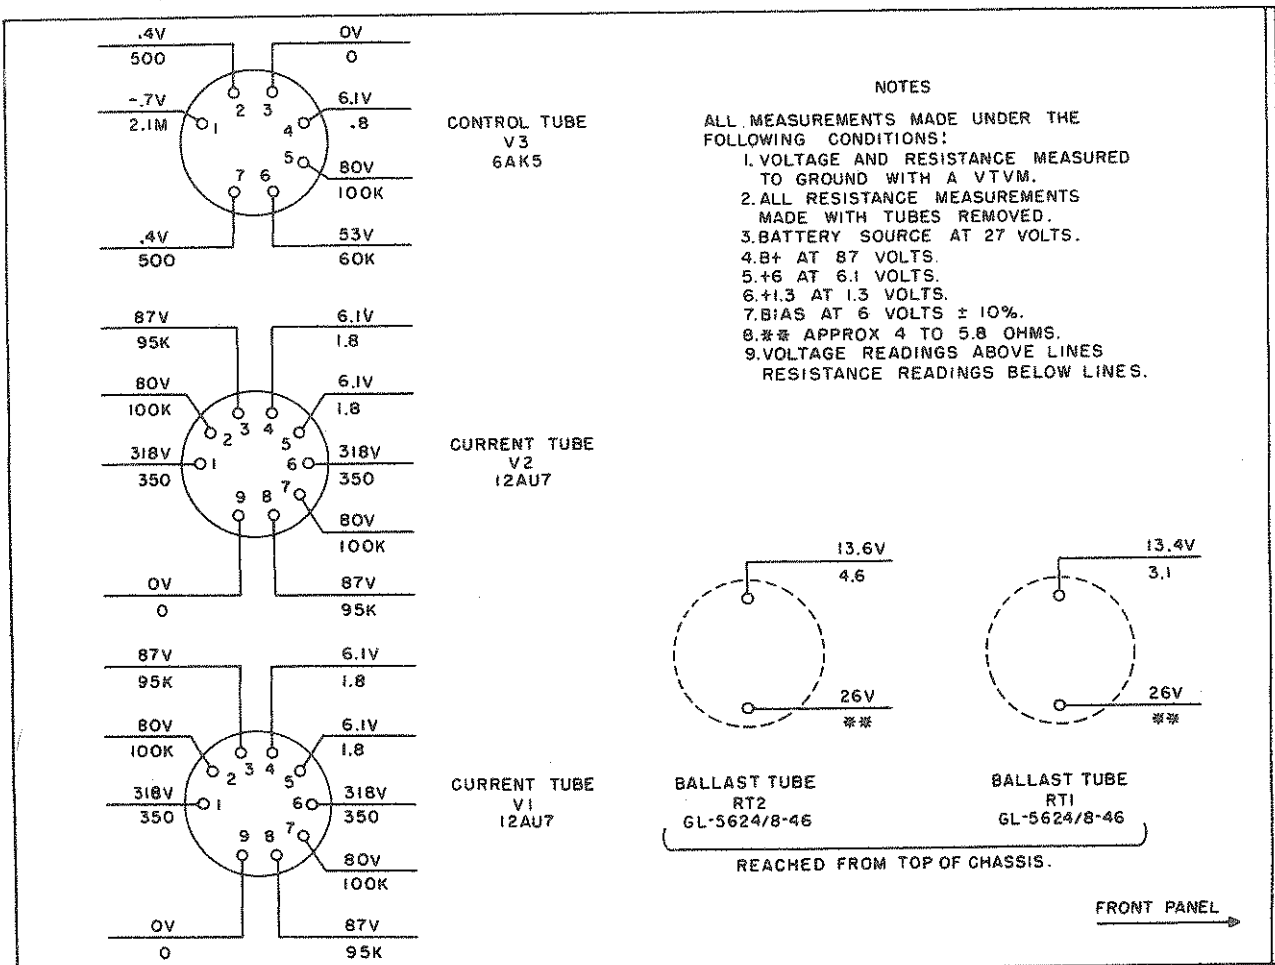

Figure 66. Dynamotor-Power Supply DY-79/PRD-1, tube socket voltage and resistance diagram.
(7) The resistance values shown in parenthesis, at pins 7 of V105, V106, and V107, are for band 2 only.
b. Normal tube socket voltage and resistance measurements for Dynamotor-Power Supply DY-79/PRD-1 and Battery Box CY-947/PRD-1 are given in figures 66 and 82.